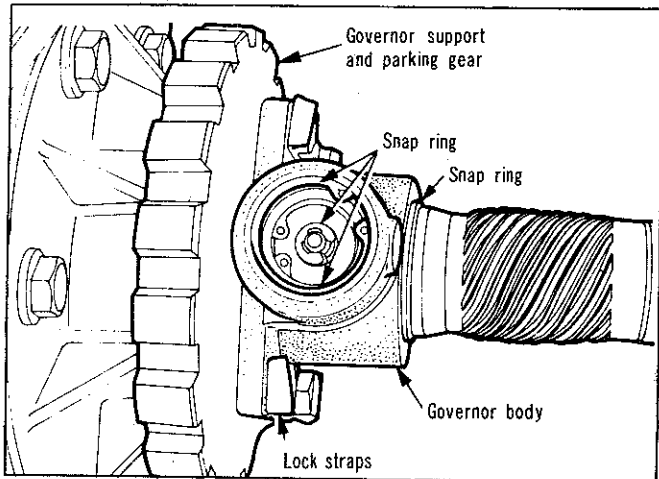
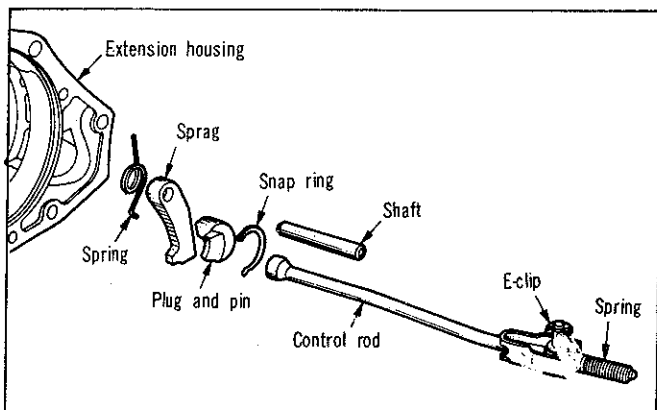

Fig. 26—Governor shaft and weight snap rings
Fig. 27—Governor assembly
(1) Remove extension housing and output shaft bearing.
(2) Carefully pry snap ring from weight end of governor valve shaft (Fig. 26). Slide valve and shaft assembly out of governor body.
(3) Remove large snap ring from weight end of governor body, lift out governor weight assembly.
(4) Remove snap ring from inside governor weight, remove inner weight and spring from the outer weight. Figure 27 shows a disassembled view of the governor assembly.
(5) Remove snap ring from behind governor body, then slide governor and support assembly off the output shaft. If necessary remove the four bolts and separate governor body and screen from the support.
(1) Assemble governor body and screen to the support (if disassembled) and tighten bolts finger tight. Make sure oil passage of governor body aligns with passage in the support.
(2) Position support and governor assembly on the output shaft. Align assembly so valve shaft hole in governor body aligns with hole in the output shaft, then slide assembly into place. Install snap ring behind governor body (Fig. 26). Tighten the body to support bolts to specification. Bend ends of lock straps over both heads.